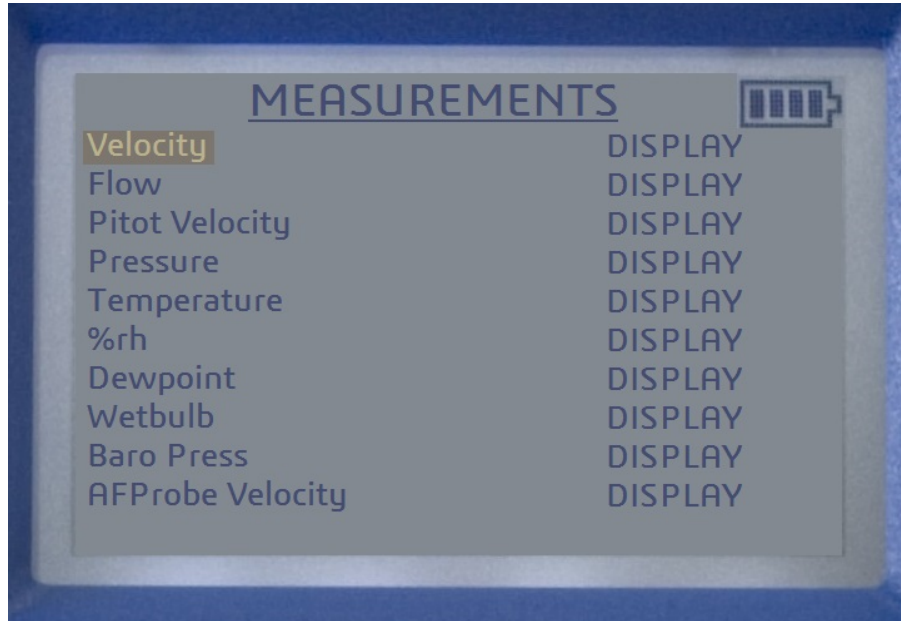

Figure A.10.6: The “Measurements” screen.
10. Navigate to the “Measurements” option and select it using the back-arrow key, which will take you to the “Measurements” screen as shown on Figure A.10.6. On the “Measurements” screen, make sure that the measurement variables that were set in step 4.a have the words “DISPLAY” or “ON” right next to it.